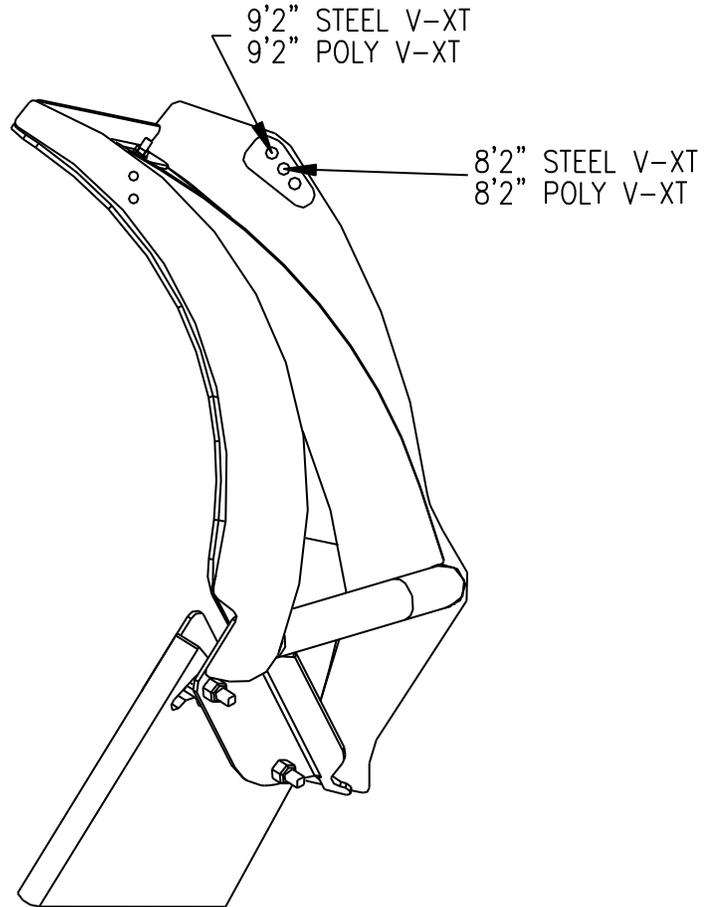

Figure 5. Individual Blade Spring Pin Location
- 11) Rotate Driver Side Blade Wing (1) until profile lines up with moldboard. Engage Spring Pin through hole corresponding to plow type. See Figure 5. Position Driver Side Blade Wing (1) so it's inside rib is parallel with Outside Plow Rib and Universal Cutting Edge (12) is contacting ground. Tighten all fasteners.